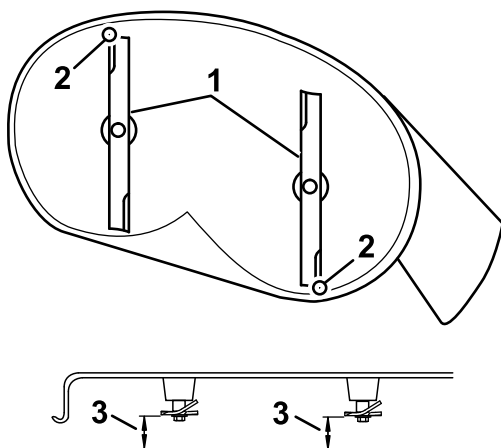

Figure 65
4. Carefully rotate the blades so they are facing front to rear (Figure 65).
5. Measure from the tip of the front blade to the flat surface and the tip of the rear blade to the flat surface (Figure 65).